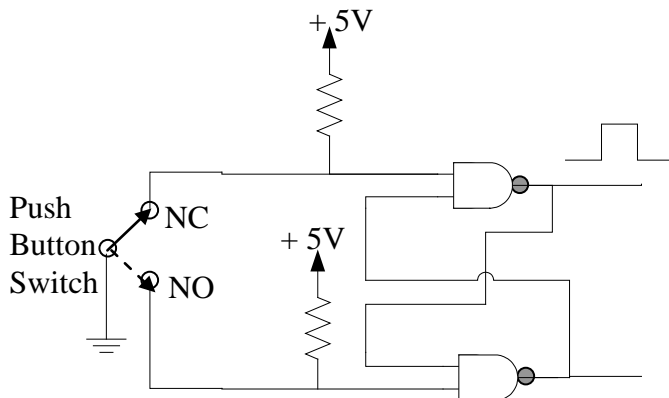

Fig. 1 Manual Clock Circuit
3. Wire the circuit. Use manual clock (circuit of Fig. 1) and the LEDs (circuit of Fig.2 with value of R chosen such that LED current = 20 mA) to verify that your counter follows the specified sequence. Set the unused states as well and ensure that the next states obtained are as specified.